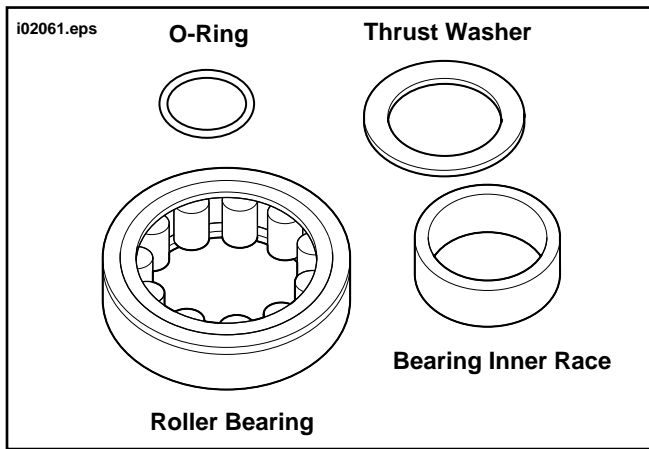

Figure 1. Rear Cam Roller Bearing Kit (P/N 8983)
1. See Figure 1. Obtain **new** Rear Cam Roller Bearing Kit (P/N 8983) from Cam Service Kit (P/N 17045-99A) and install according to the following: